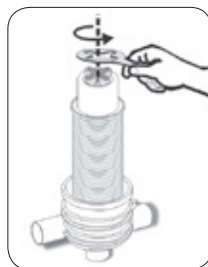

FIGURE 2
- Unscrew the butterfly-nut on the filtration element (Figure 2).